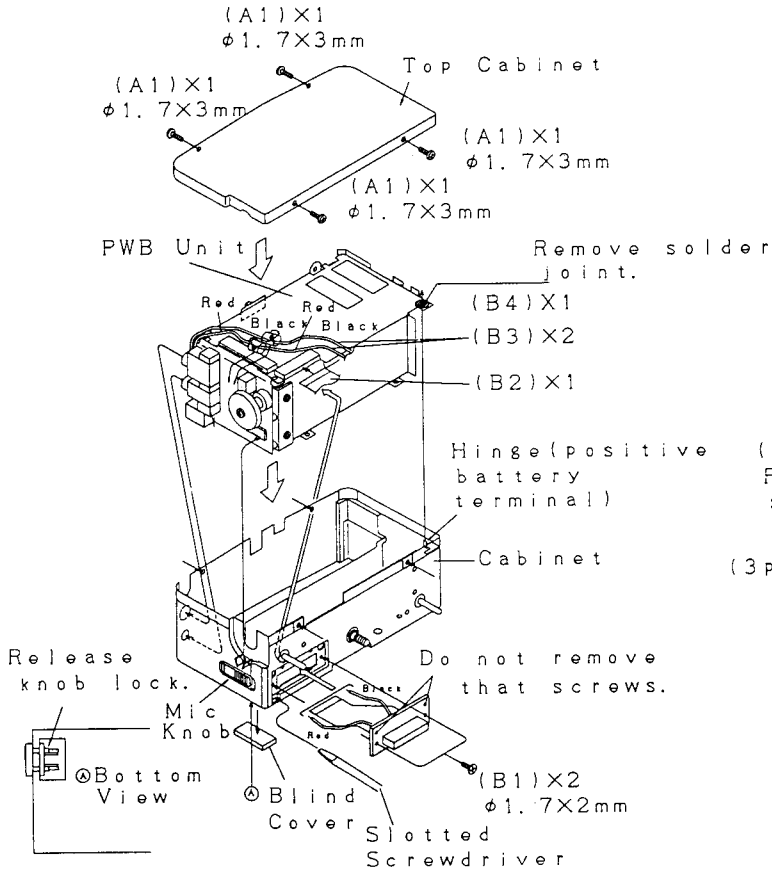

Figure 24-1
*1 When removing the PWB unit from the cabinet, remove the blind cover with a slotted screwdriver as shown in Fig. 24-1, release the mic. knob lock, remove the mic. knob, and then remove the PWB unit.